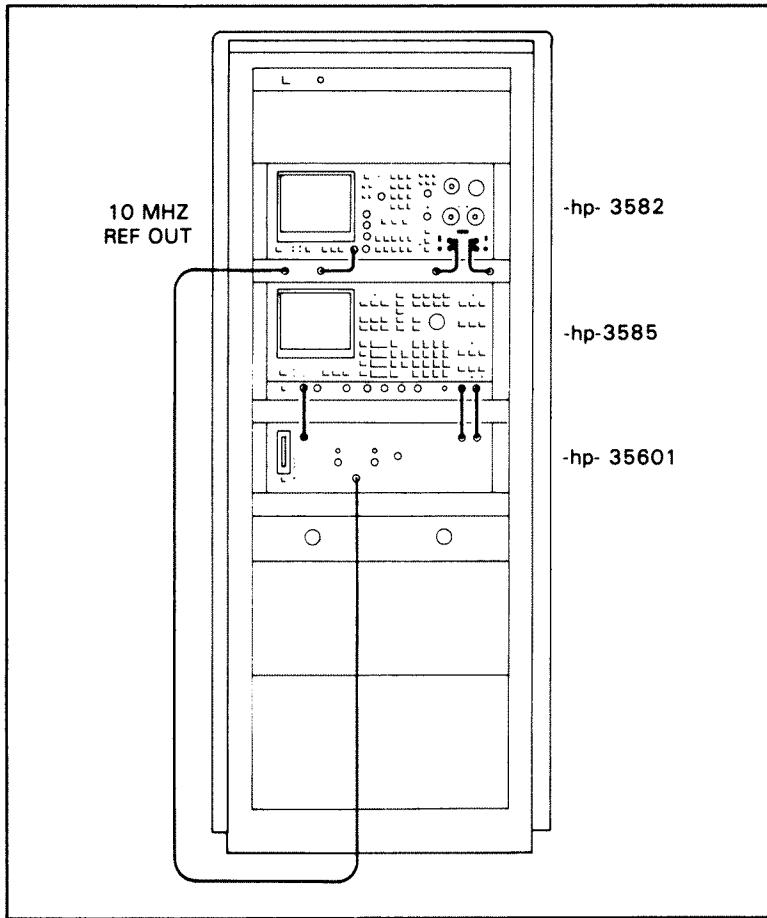

Figure 7-13. PM Noise Floor/Spur Test Set-up
- a. Connect the 10 MHz Reference output on the patch panel to the -hp- 35601A 50Ω Signal Input connector. (See Figure 7-13)